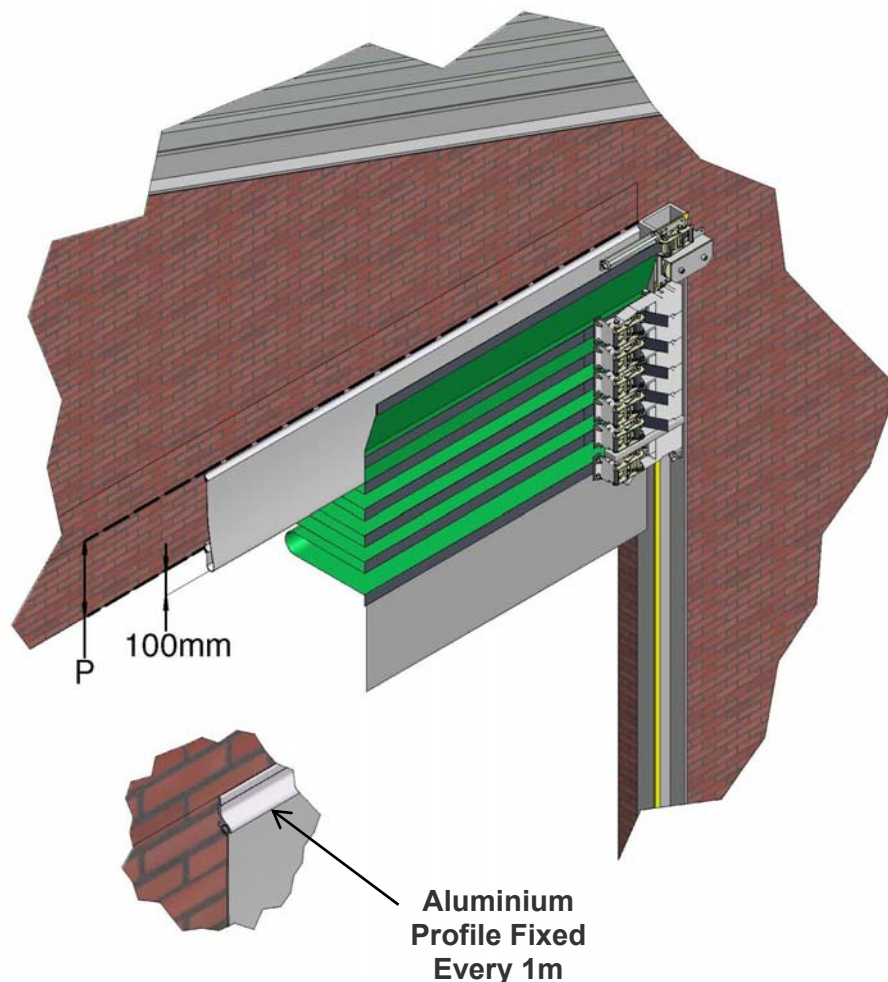

Figure 14
14. Galebreaker® Pelmet: If required it is fixed along the full width of the opening between the top of the tracking and the bottom edge of the cladding. The Pelmet material is secured in place with a 45mm high Aluminium profile along the top and bottom (Figure 14). This profile needs to be placed on a level surface with fixings at a maximum distance of 1m, ensure the building face conforms to these requirements
**When ordering please supply height P as shown on Figure 14.** Note that: